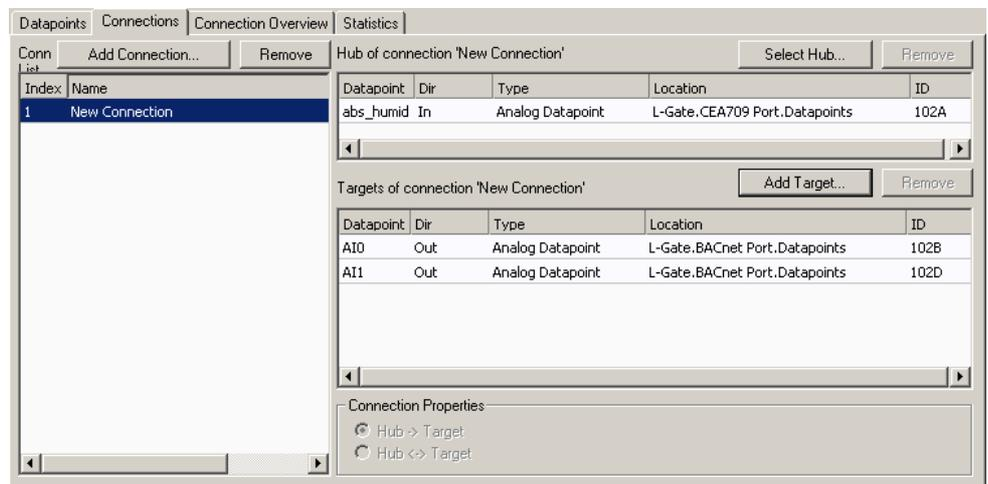

Figure 92: Connection dialog with hub and target points.
4. Now the connection display contains a hub and two target data point as shown in Figure 92.